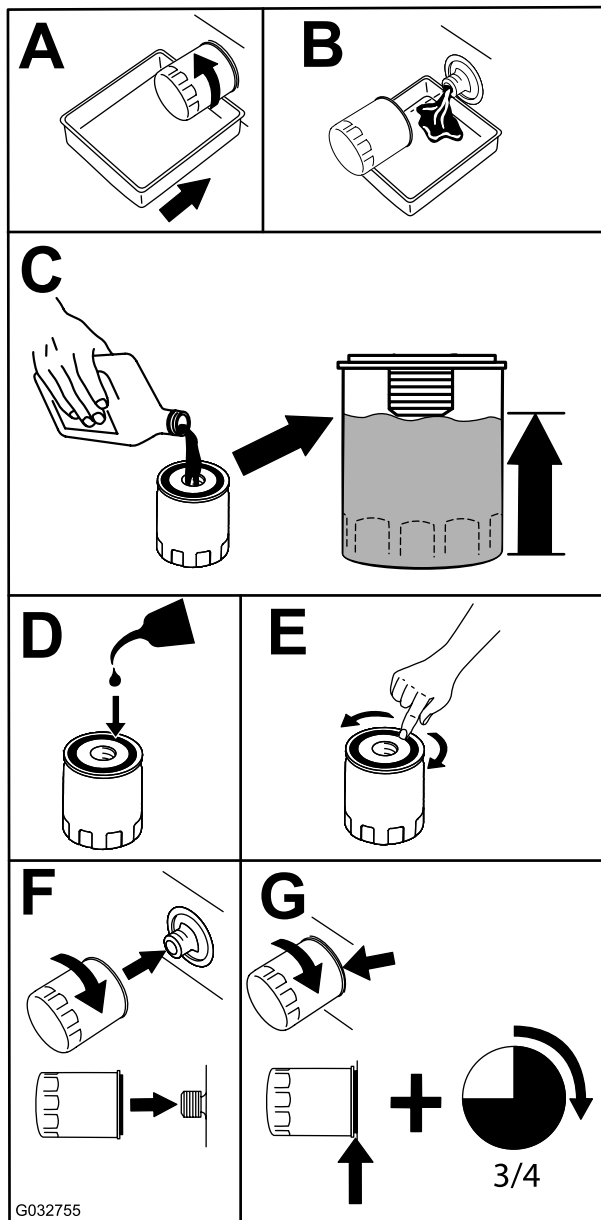

Figure 38
2. Change the engine-oil filter (Figure 38).